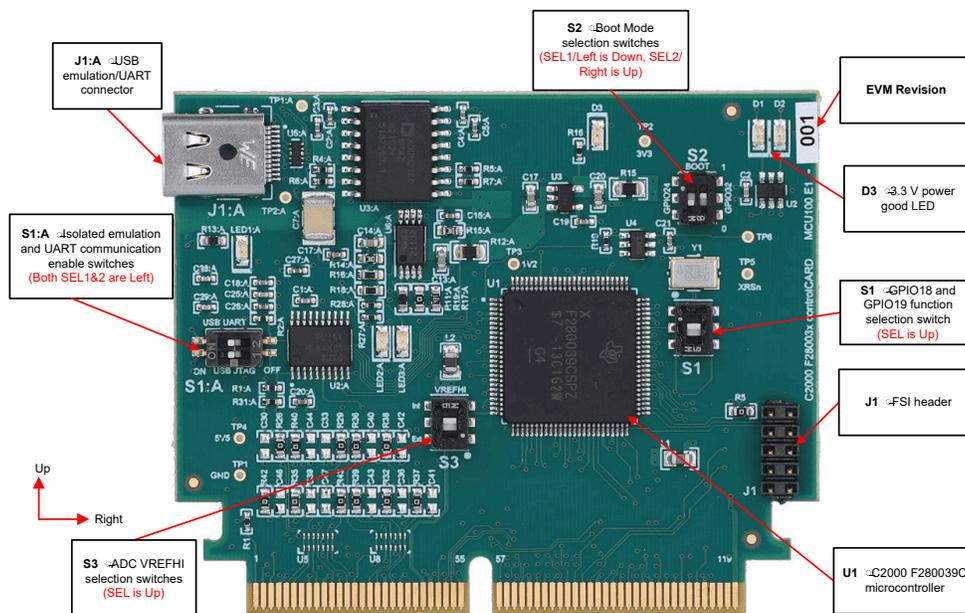

Figure 3-5. F280039C controlCARD and Switches Setting
- Make sure that switches on TMDSCNCD280039C are set as described below shown in Figure 3-5.